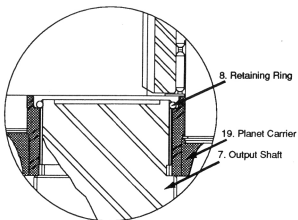
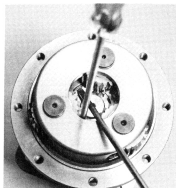

Fig. 2
Fig. 3
14. Remove sun gear (31) from planet gears (40).
15. Remove retaining ring (8) from groove in shaft (7). (Fig. 2 & 3)
Note: (8) is a wirelock retaining ring that retains the planet carrier assembly (19) on the output shaft (7). This locking ring must be pried out of the locking ring groove to remove the planet carrier assembly (19). This typically is accomplished by inserting two long screwdrivers between the planet gears and carefully working the wirelock out of the locking groove. (Fig. 2 & 3)
16. Lift planet carrier assembly (19) from shaft (7).
17. Bend tab on lock washer (17) away from lock nut (18).
19. Lubricate spline end of shaft (7), lay retaining ring (8) on end of shaft. (Fig. 2) Slide planet carrier assembly spline onto shaft spline. [Model 50D— Slide large planet carrier assembly] Reach through the planet carrier and seat retaining ring (8) into groove at end of shaft (7). (Fig. 3) This is best accomplished using two long screwdrivers. (Fig. 3)